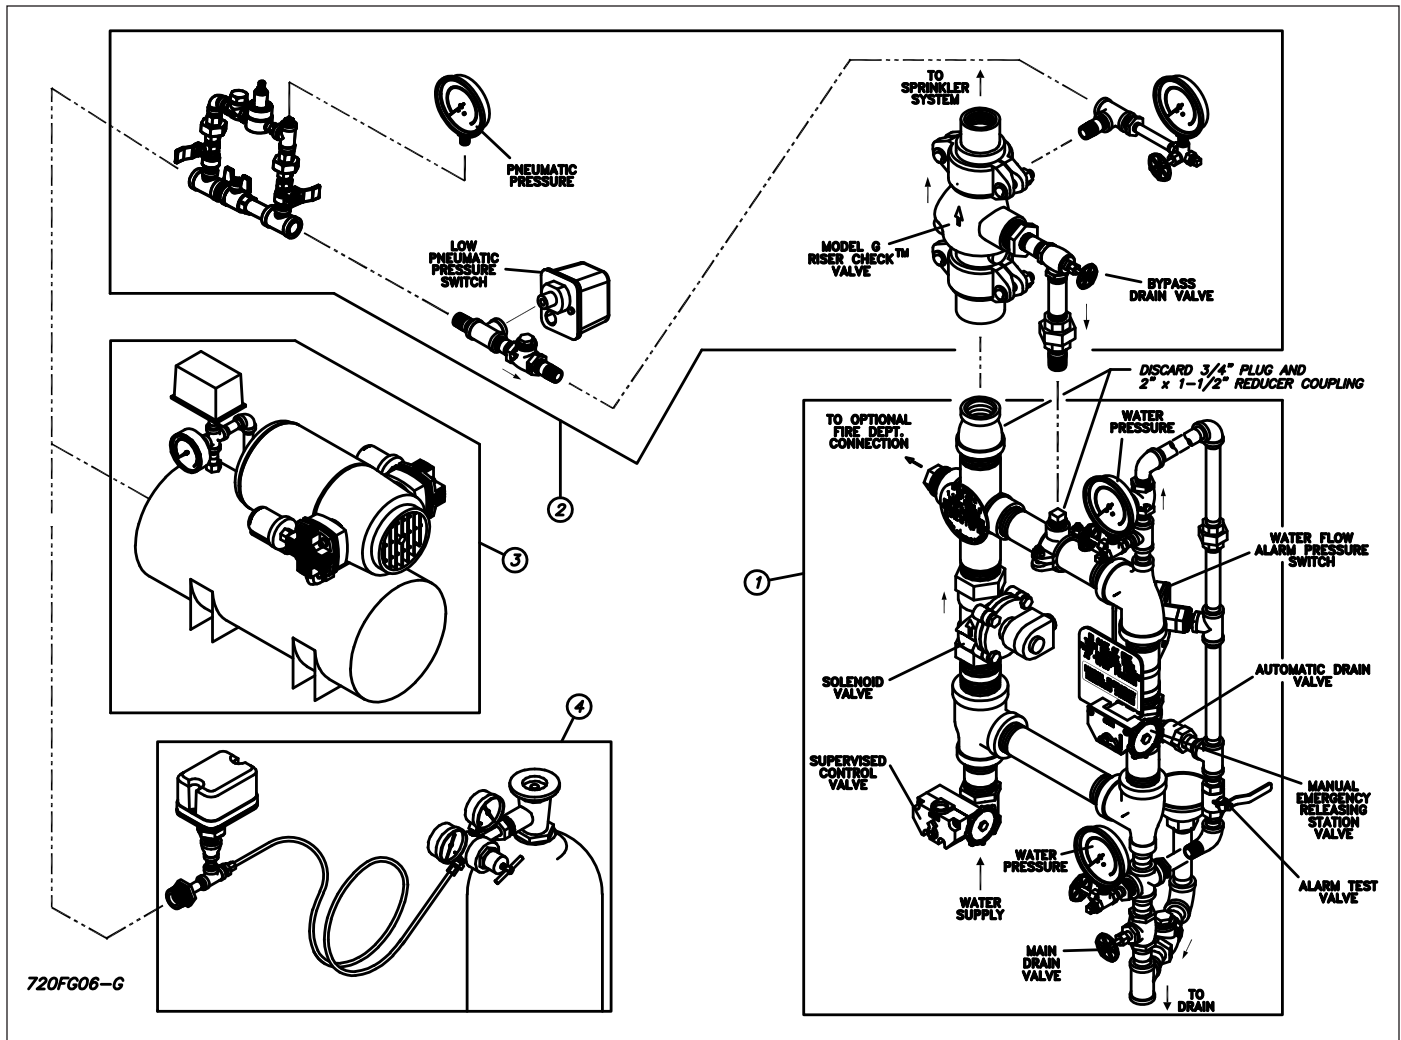

Figure 6 - Double Interlock Preaction, Component Identification
The recommended sequence of installation is as follows (refer to Figure 6):
Install the pressure gauge included with this trim kit into the Model A Pressure Maintenance Device after removing the ¼" NPT (R¼) plug, as illustrated in Figure 6.
4. Install the Pre-assembled Model A Pressure Maintenance Device (P/N 6304000100) with pressure gauge in place, onto the Switch/Gauge Trim Kit as illustrated in Figure 6. Adjust the output pressure to approximately 10 psi (0.7 bar) according to the in-
5. When a dedicated pneumatic pressure supply is required, a small tank mounted air compressor [such as the hp, 2 gal. (7.6 liters) Gast Model 1LAA-11T-M100X illustrated in Figure 6] can be used to input the Model A Device.
If moisture and possible ice blockage is of concern, a dry nitrogen gas cylinder with the Nitrogen Regulating Device described in Bulletin 254, and illustrated in Figure 6, can be used to supply the Model A Device.
Refer to Figure 6.